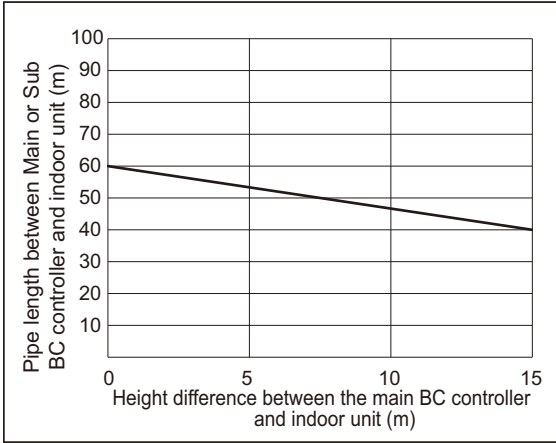

Fig. 2
*2. Details refer to Fig. 2.
*9. When the piping length or the vertical separation exceeds the limit specified in Fig. 2, connect a sub BC to the system.
When using indoor models P/M140 or larger, the restrictions shown in Fig. 2 cannot be exceeded.
*9. When the piping length or the vertical separation exceeds the limit specified in Fig. 2, connect a sub BC to the system. The restriction for a system with a sub BC connection is shown in Fig. 3. When a given system configuration falls within the shaded area in Fig. 3, increase the size of the high-pressure pipe and the liquid pipe between the main BC and sub BC by one size. When using P/M32, P/M40, P/M50, P/M100, or P/M125 model of indoor units, increase the size of the liquid branch pipe between the sub BC and indoor unit by one size. When using indoor models P/M140 or larger, the restrictions shown in Fig. 2 cannot be exceeded.